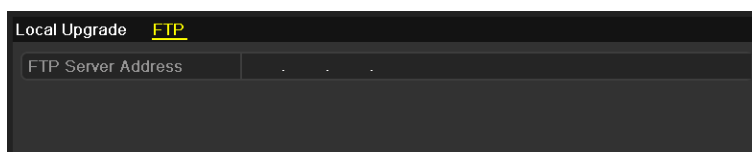

Figure 16-8 FTP Upgrade Interface
Step 2 Click the **FTP** tab to enter the **Local Upgrade** interface, as shown in Figure 16.8.